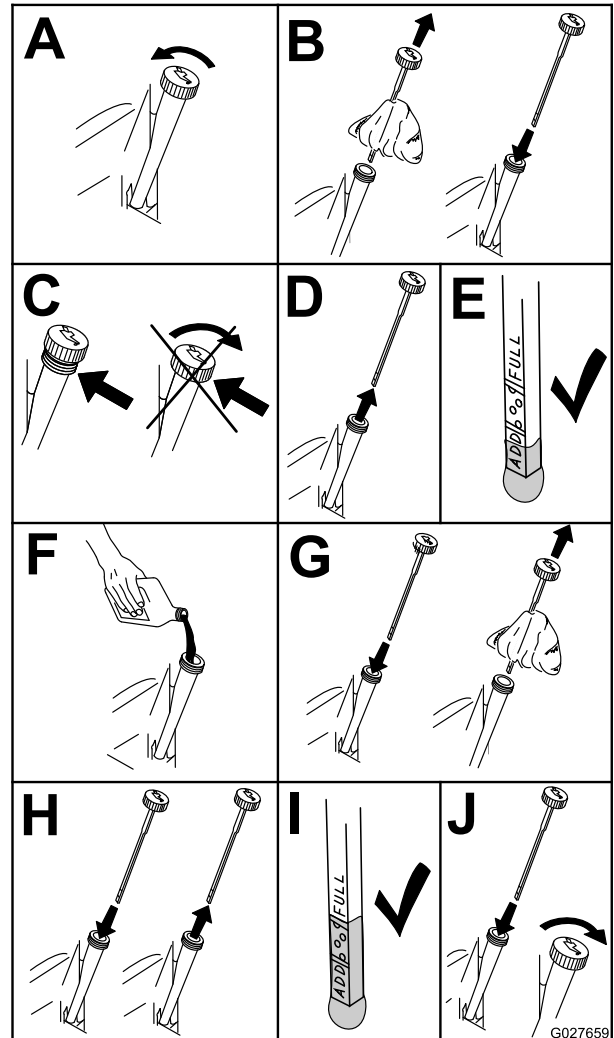

Figure 46
2. Shut off the engine, remove the key, and wait for all moving parts to stop before leaving the operating position (Figure 46).